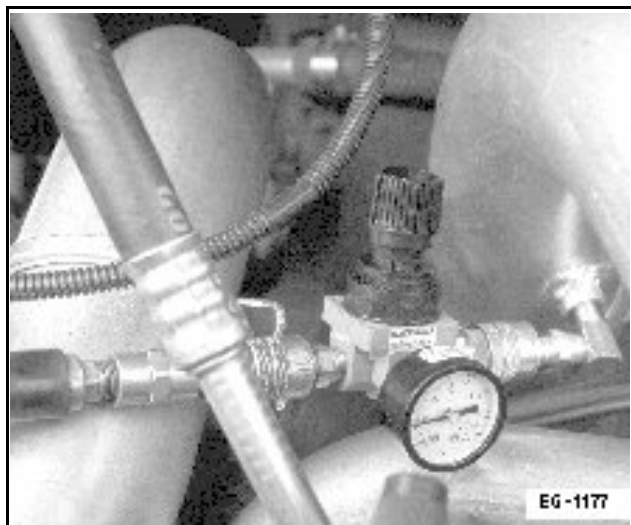

Figure 33 Regulated Air Supply
3. Find the cold air discharge pipe containing a plug. Remove the plug and connect a manually regulated air supply with a pressure gauge refer to Regulated Air Supply (See Figure 33, page 58).